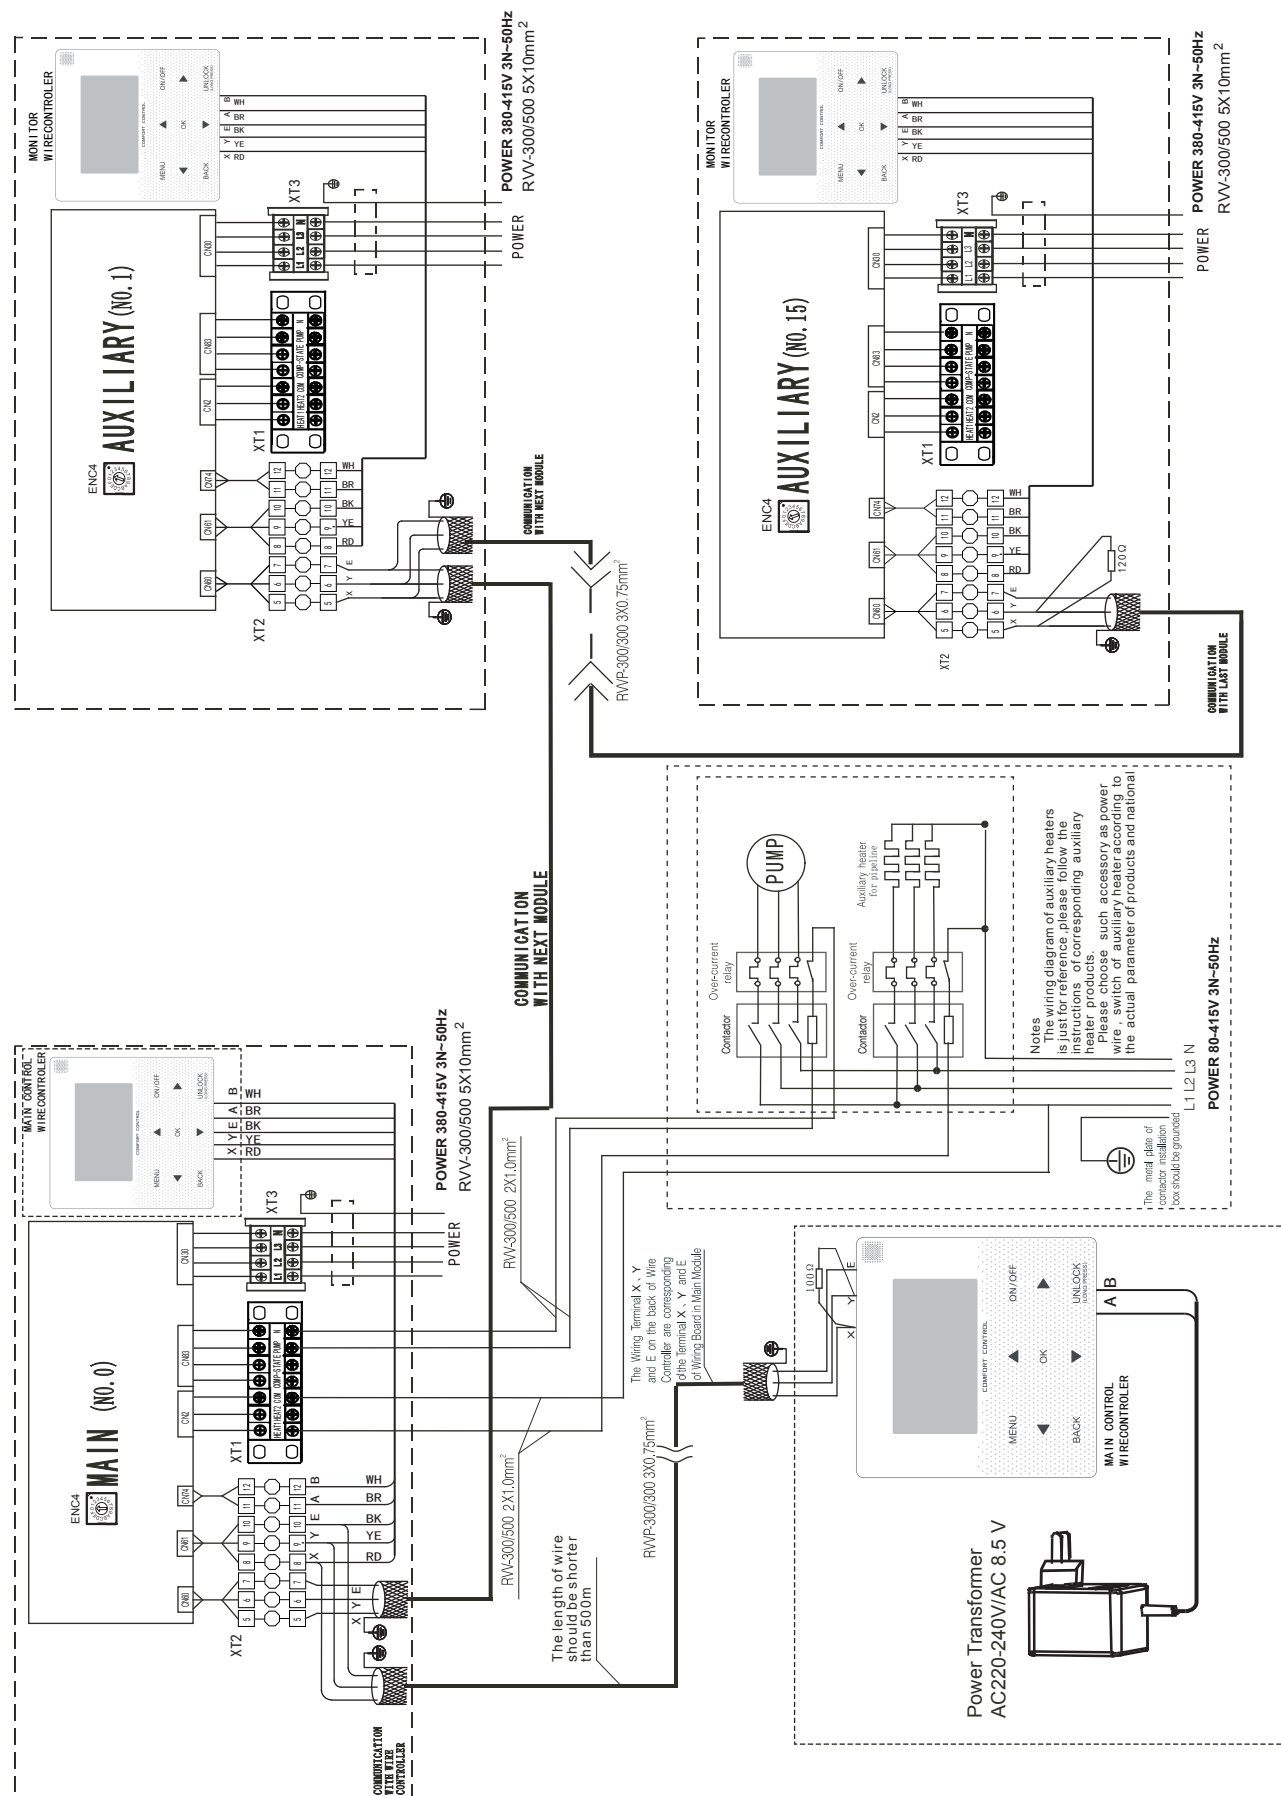

Fig. 8-18 Networking communication schematic of main unit and auxiliary unit for MC-SU30-RN8L
c) Units must with a main unit controls (Please see Fig. 8-18 for the controls wiring diagram).